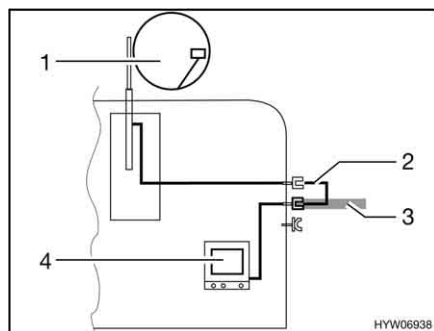

Fig. 102 TV inside the vehicle
- TV inside the vehicle (Fig. 102,4): Connection to roof antenna (Fig. 102,1) with connection cable (Fig. 102,2)
- TV inside the vehicle (Fig. 102,4): Connection to external antenna (Fig. 102,3)